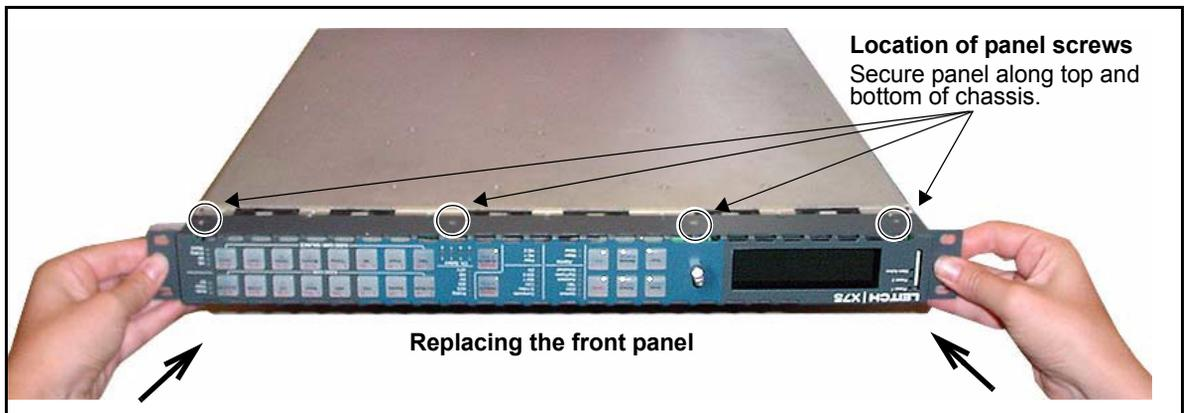

Figure C-3. Removing the Front Panel
5. Replace the front panel with the new frame-mounted local control panel, and secure it to the unit using the screws removed in step 3. (See Figure C-3.)